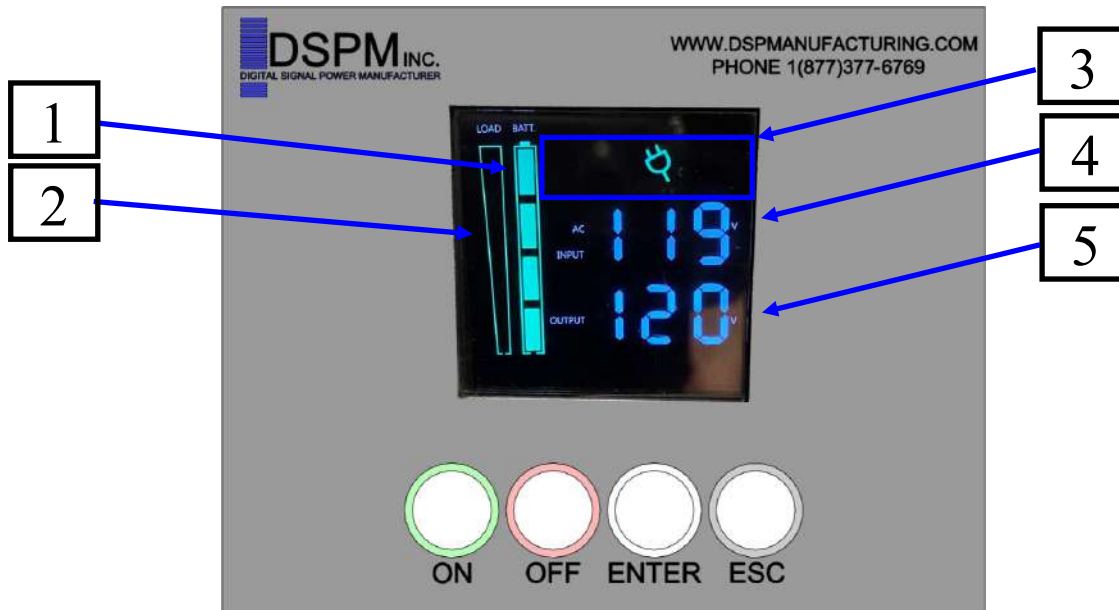

Figure 11
Refer to Figure 11 for descriptions of the Front Panel display's buttons and LCD.
- 8.1.3.2. The Processor perform a series of checks (These checks will be indicated by the display panels (see CH.7 Figure 11).